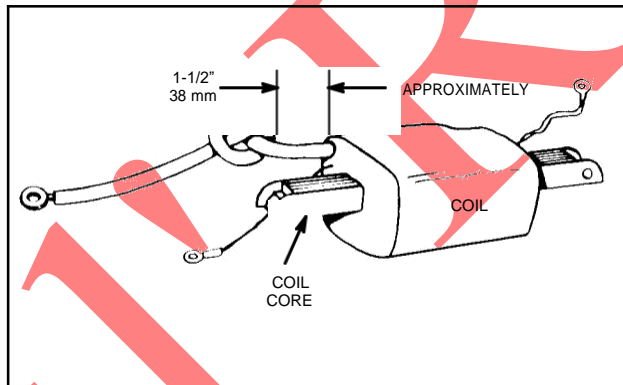

Fig. 48 – SHORTENING CABLE
**NOTE:** On Model 9 engines, knot ignition cable before inserting cable thru back plate, Fig. 48.